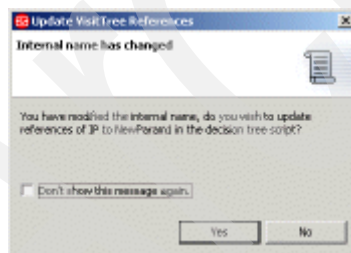

Figure 9-53 Update Visit Tree References window
27. Enter IPList in the Internal Name text field and select **Tab**. The Update Visit Tree References window displays as shown in Figure 9-53.